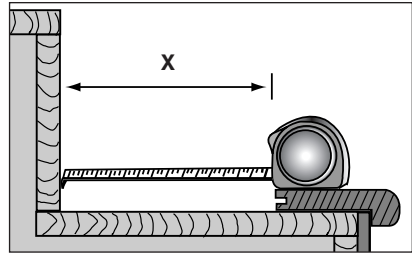

Fig. 36
5. Dry fit the stair nose to the edge of the first tread with the moulding nose overlapping the laminate piece on the riser below. Measure the distance from the edge of the stair nose to the next riser (Fig. 36).